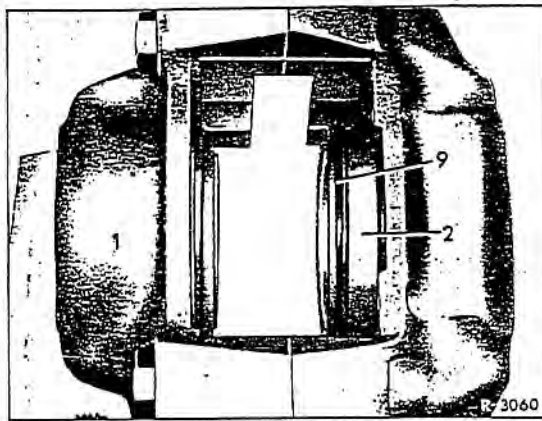

Fig. 42-12/30
2. Lightly coat a new piston seal (3) with brake paste or brake fluid and install it in the cylinder bore groove (Fig. 42-12/29).
3. Insert the piston (2) in the bore of the brake caliper (1) (Fig. 42-12/30).